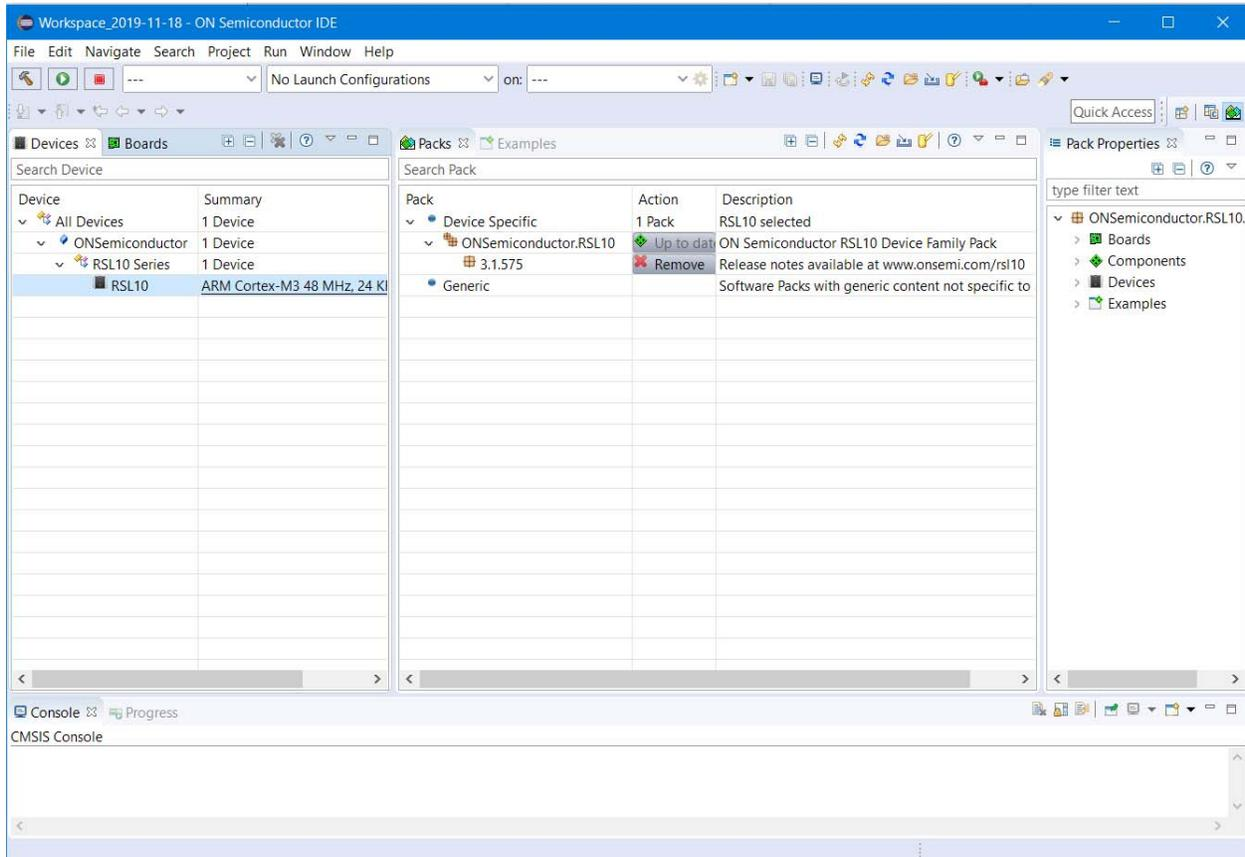

Figure 4. Pack Manager Perspective after RSL10 CMSIS-Pack is Installed
7. The RSL10 CMSIS-Pack now appears in the list of installed packs. In the **Devices** tab, if you expand **All Devices > onsemi > RSL10 Series** you can see RSL10 listed there. You can manage your installed packs in the **Packs** tab. Expanding **ONSemiconductor > RSL10** makes the **Pack Properties** tab display the details of the RSL10 CMSIS-Pack. Figure 4 illustrates what the Pack Manager perspective looks like after installation.